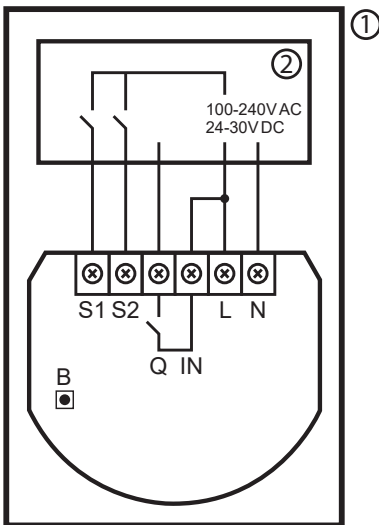

Figure 1: Example connection of SingleSmart-Control
- Connect only as shown in Figure 1 below.
2. Connect as shown in Figure 1 below.